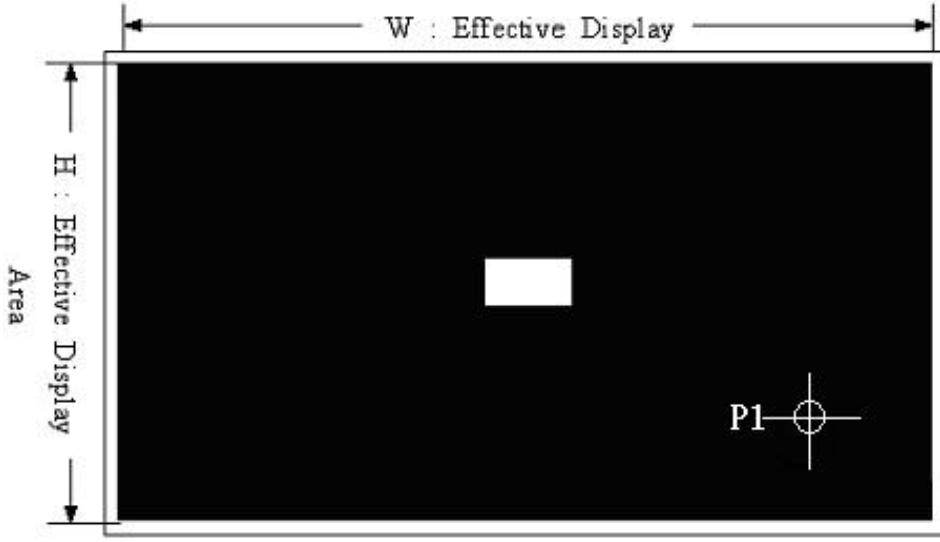

Figure-4. Measurement point
- \* 2. Contrast Ratio is calculated from the display Luminance and the non-display Luminance value. Display condition is shown in Figure-4.